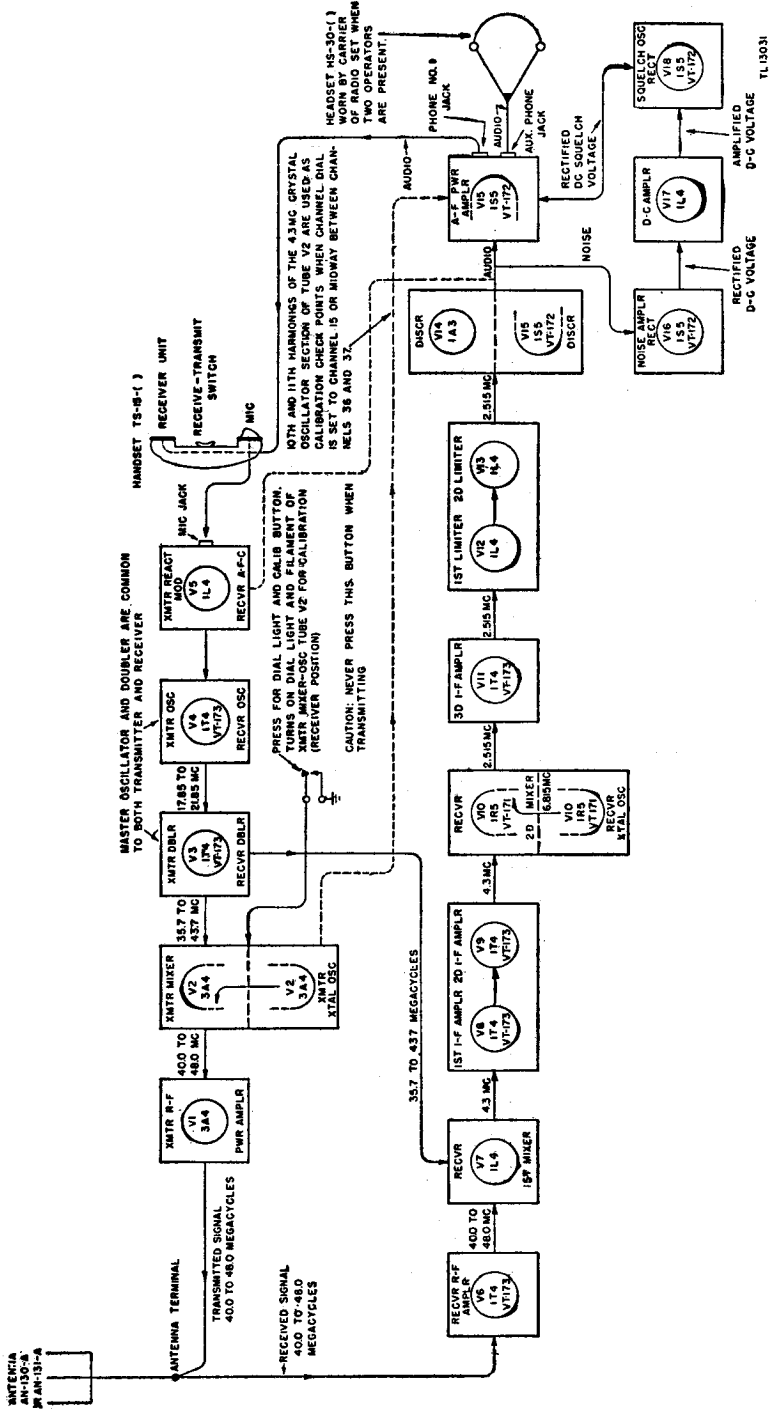

Figure 42. Radio Receiver and Transmitter EC-1000-A—block diagram.
*a.* Radio Receiver and Transmitter BC-1000-A consists of a number of interlocking circuits which provide rapid change-over from receive to transmit. The receiver and transmitter frequency is varied by a single tuning control. This makes it possible to change operating frequencies rapidly. The block diagram (fig. 42) shows the signal paths through the transmitter and receiver. The same antenna is used for both transmission and reception.